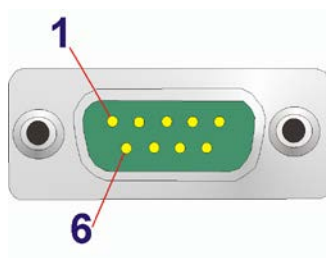

Figure 3-34: Serial Port Pinouts
- CN Pinouts:** See **Figure 3-34** and **Table 3-29**